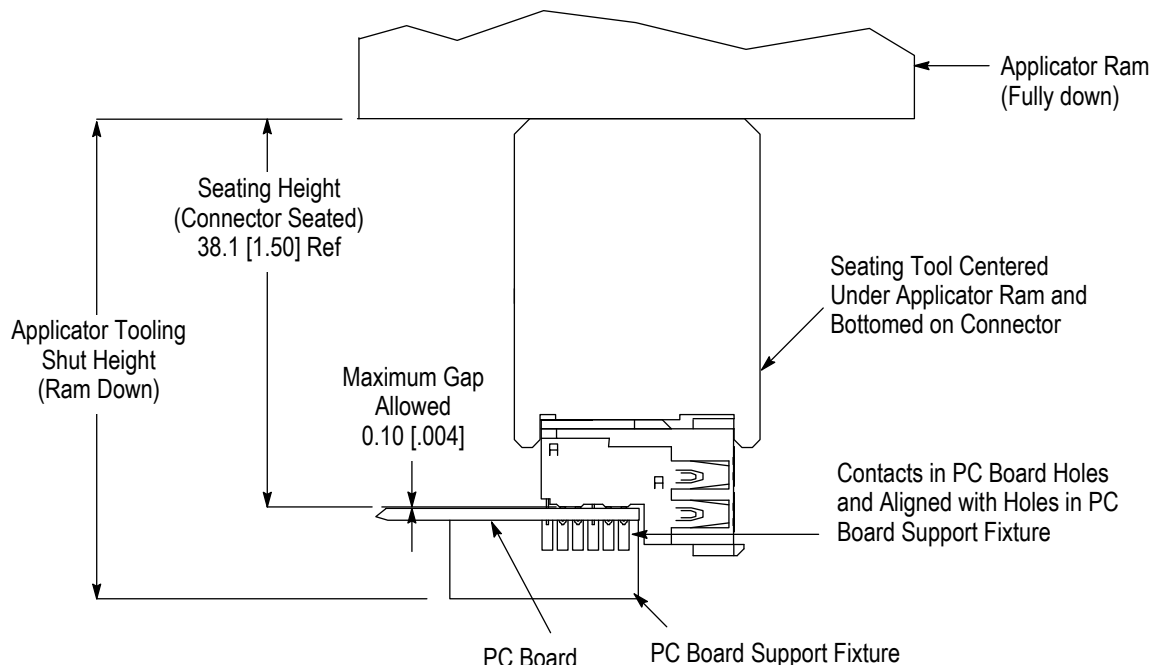

Figure 2
1. Set seating height to the dimension shown in Figure 2 (application tool shut height will equal the tool seating height PLUS the combined thicknesses of the pc board and support fixture). After seating, a gap of no more than 0.10 mm [.004 in.] between the connector housing and the pc board is allowed.